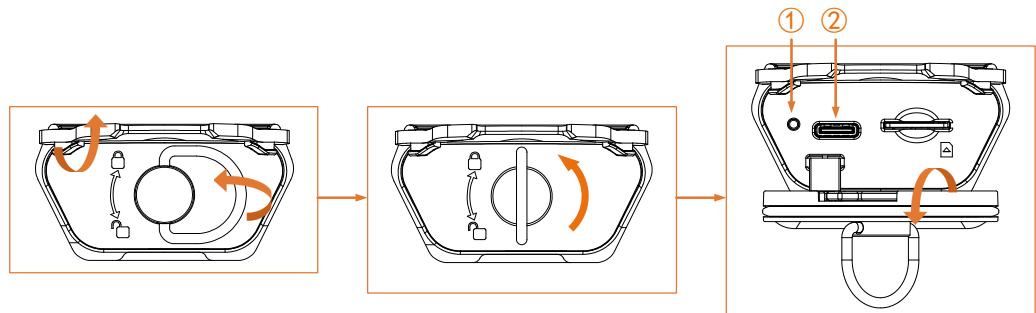

Figure 3-3 Show Type-C Interface
1. Expose the type-C USB interface on top of the camera. See Figure 3-3 for operation steps.